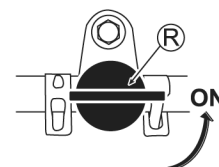

Fig. 9
2. Set Fuel cock (R) to "ON". (See Fig. 9)